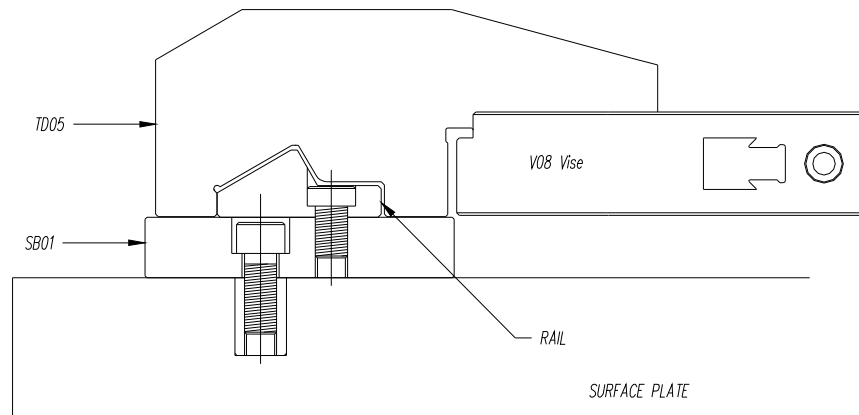

Figure 3
STEP 4. Secure the V08/TD05 truing device to the R200 rail with the M8 x 40mm cap screw as shown in Fig. 3.